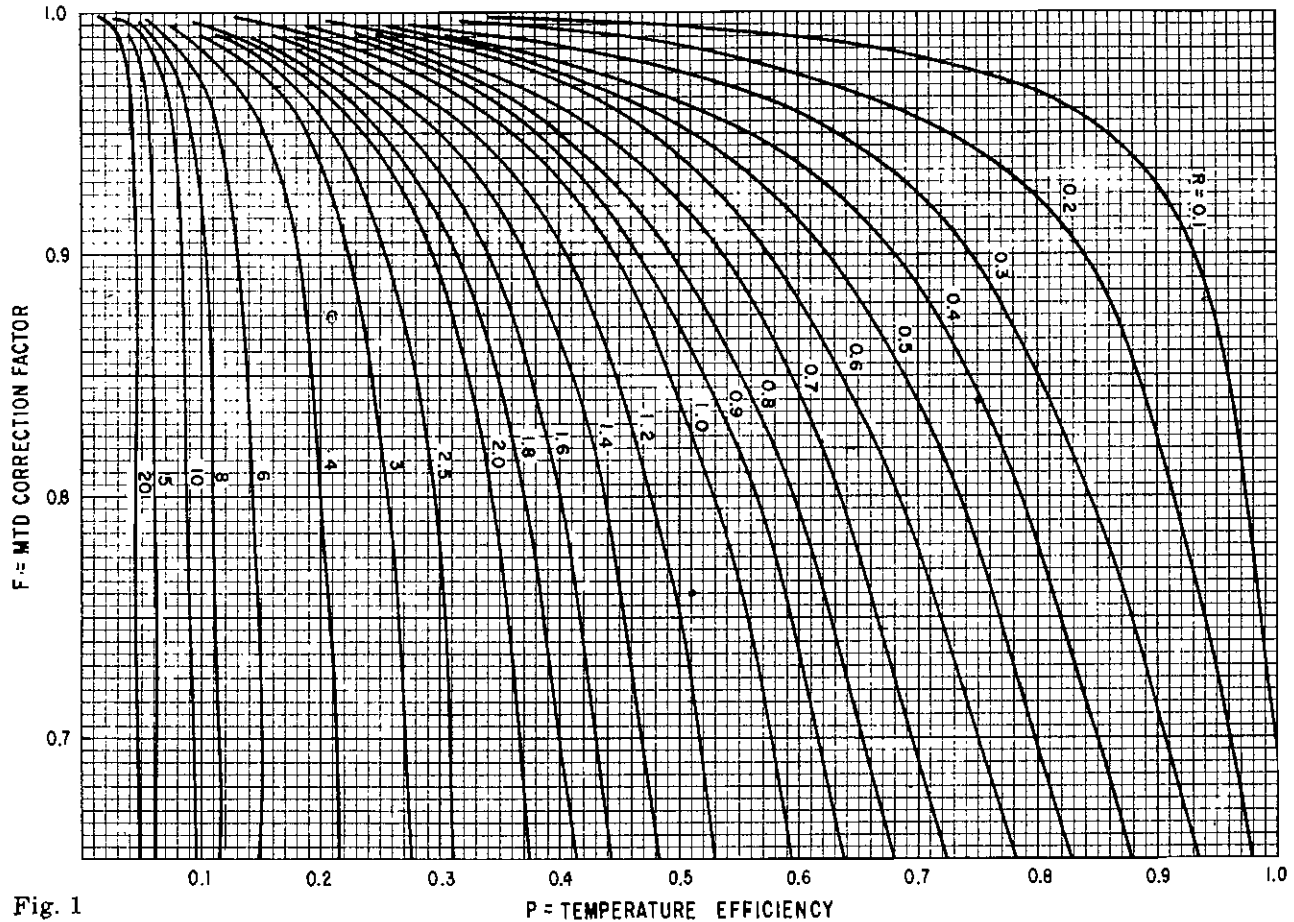
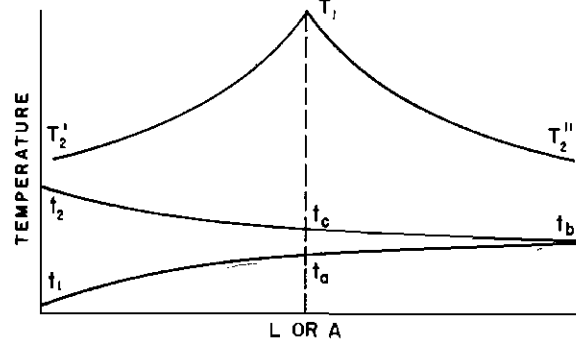

Fig. 1
Fig. 3
The resulting LMTD correction factor chart for one-tube pass is shown in Fig. 1.
A look at Fig. 3 shows there are two extra unknowns—intermediate tube side temperatures  $t_a$  and  $t_c$ . By utilizing the one-pass LMTD correction curve in Fig. 1, it is possible to leave only one unknown  $t_b$ , the intermediate tube side
1. Assume a value of  $t_b$ . A good first try is  $t_b = t_1 + 0.6 (t_2 - t_1)$   $t_b = 80 + 0.6 (20) = 92$
2. Calculate the LMTD in the lower tube pass by using Fig. 1.
From Fig. 1,  $F = 0.92$
3. Calculate the LMTD in the upper tube pass using Fig. 1.
From Fig. 1,  $F = 0.845$